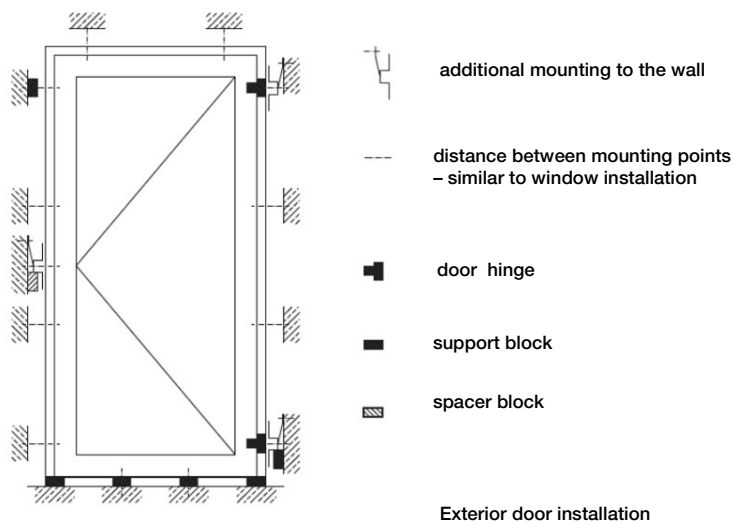

Fig. 1 The way to support PVC doors
- Exterior doors are more exposed to dynamic loads (such as a strong "door slam") than static loads. In addition, there are fewer locking points on the door compared to window elements. Therefore, additional fastenings and door washers should be provided in place of the hinges and lock (Fig.1)